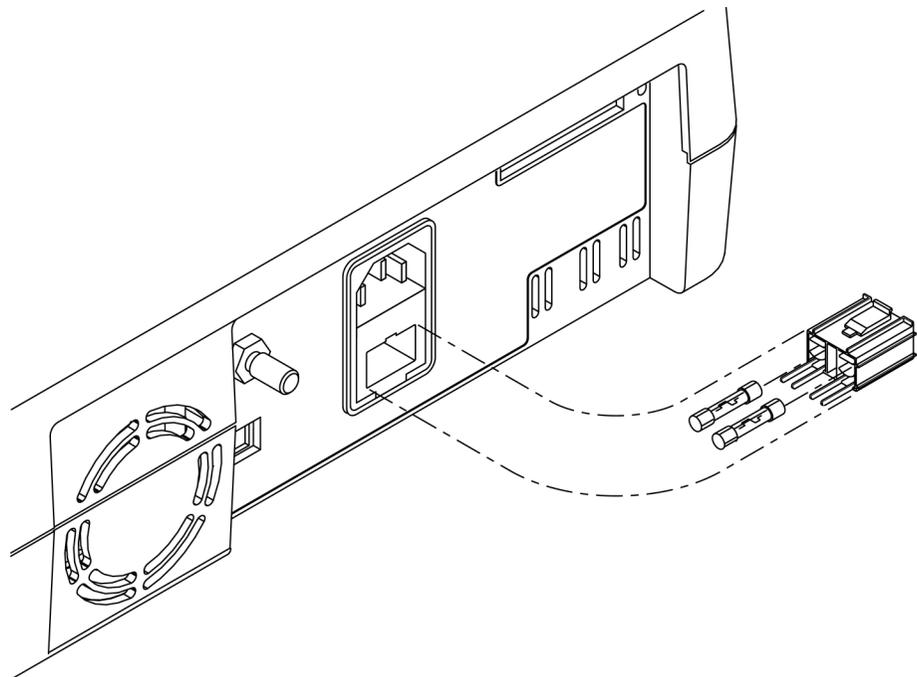

Figure 4: Fuse Removal
3. Remove the fuse drawer from the power module by pressing down on the tab in the center and pulling out as shown in Figure 4.